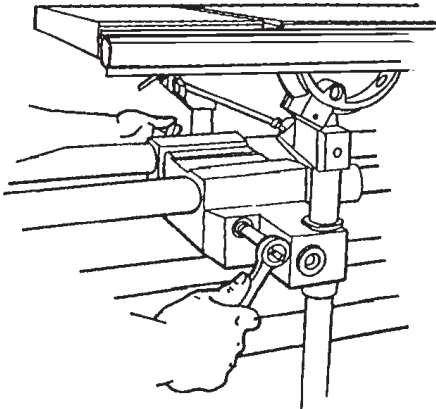

Figure B-45
3. If the carriage lock handle (187) does not lock into the horizontal position or the carriage moves out of position, the lock needs adjusting. To adjust the lock, use a 1/2" socket with an extension and ratchet handle to tighten or loosen the nut located at the back of the carriage assembly, as shown in Figure B-45.